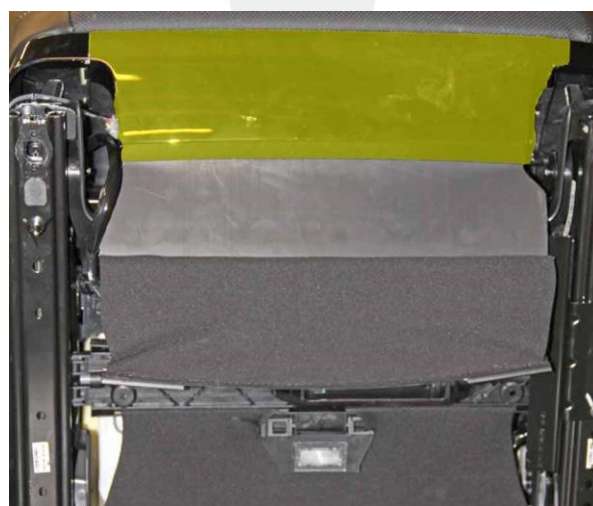

Figure 2 (Front trim cover highlighted)
3. Remove the front trim cover from the base of the seat (Figure 2).